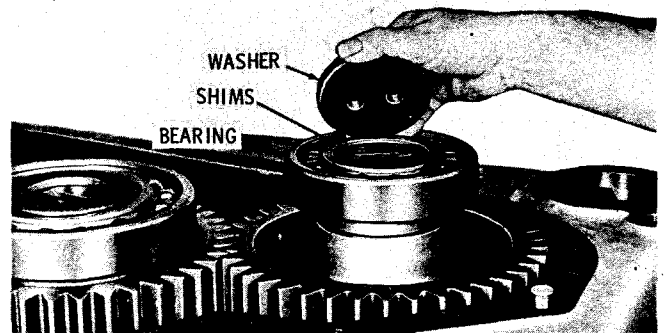

Fig. 7-119. Installing bearing retainer washer
(9) On all models, install the bearing assembly (fig. 7-119). On models which do not have either a rear output or rear-mounted brake, install the shims and washer. Refer to paragraph 4-8b for shimming instructions.